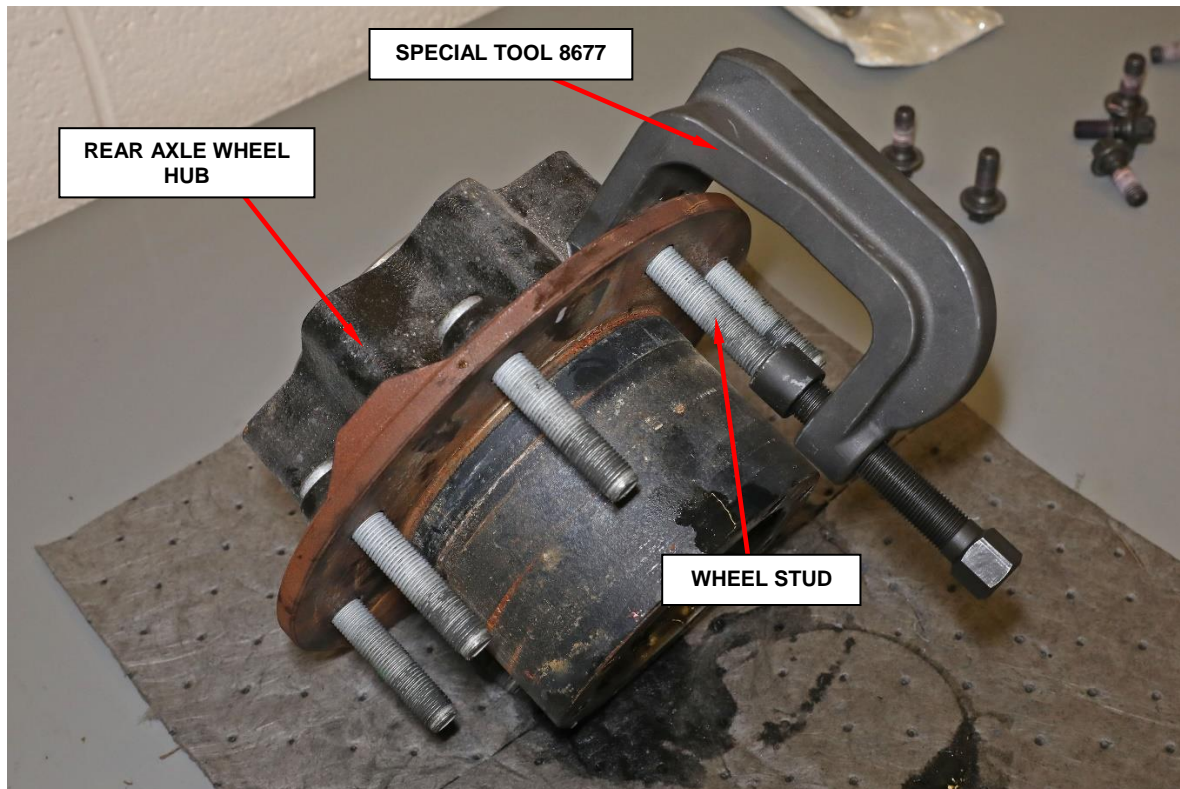

Figure 14 – Rear Hub Stud Removal
15. Attach special **8677** tool to hub and extract the wheel stud(s) (Figure 14).